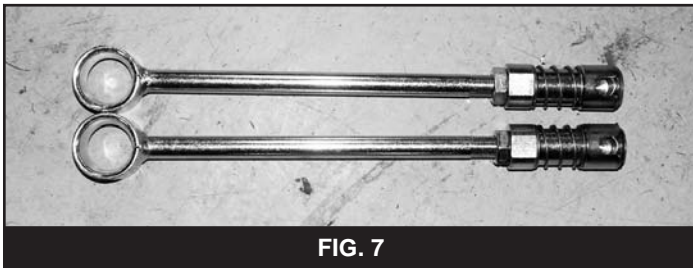

FIG. 7
39. Install the provided ½" jam nut then the spring loaded disconnect assembly on the threaded end of the new link. Thread the nut and assembly all the way on to the link (Fig 7).